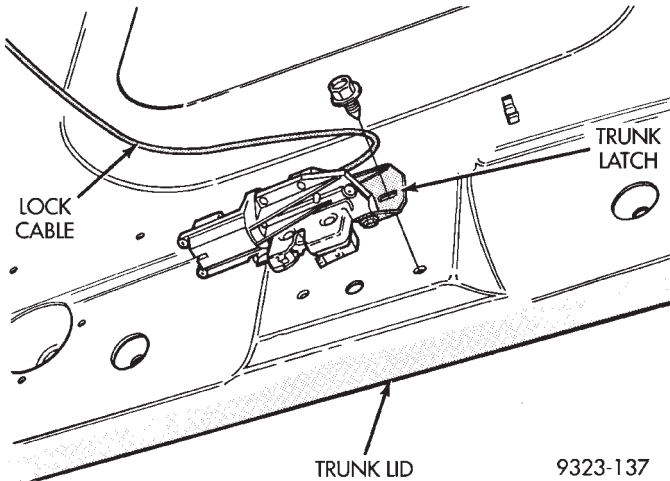

Fig. 77 Trunk Latch
(1) Release trunk lid latch and open trunk lid.
(2) Remove push-in fasteners holding trunk lid lining to rear of trunk lid.
(3) Remove bolts holding trunk latch to trunk lid (Fig. 77).
(4) Separate trunk latch from trunk lid.
(5) Disengage power lock connector from latch solenoid.
(6) Disengage trunk ajar switch connector from latch.
(7) Separate latch from vehicle.
(8) Remove trunk lock remote adapter.